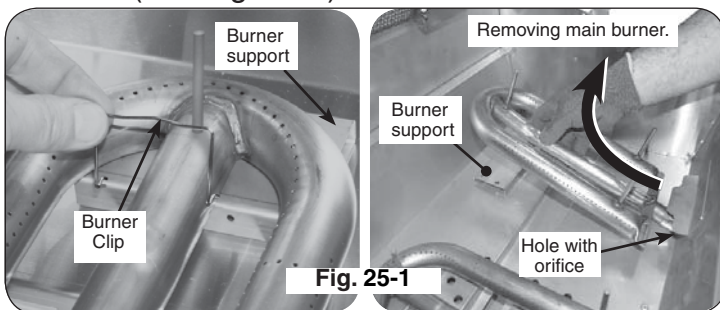

Fig. 25-1
2. Locate the burner. Slightly pinch and remove the burner clip (located over the rear center of the burner) from the burner support and set aside. Then carefully lift the burner from the burner support and out from the hole in the forward fire wall (see Fig. 25-1).
3. Using a 1/2" deep socket nut driver, remove the orifice from the valve. Access this through the hole in the forward firebox plate inside the grill (see PARTS LIST and Fig. 25-1).
6. After checking the orifice drill size or replacing the orifice, replace the burner over the orifice fitting, sliding it forward, from behind the forward fire wall, so the orifice is centered inside the burner gas inlet, and set it gently onto the burner support. The studs on the bottom back of the burner must each fit through their respective holes in the burner support. This is critical to the safe function of the barbecue. Finally, re-install the burner clip (from step 2) around the burner and into the corresponding holes in the burner support (see Fig. 25-1).